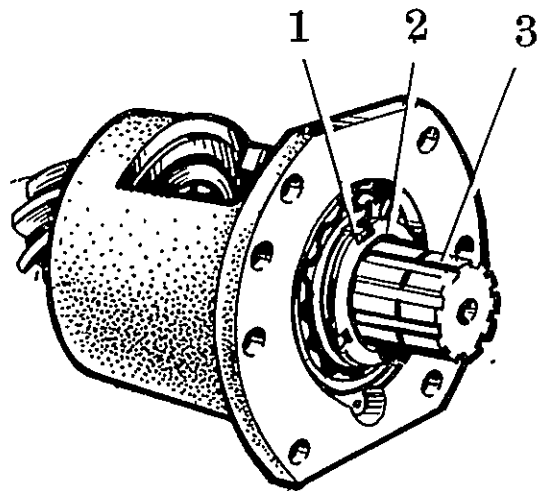

Fig. 4-4
- 1). The adjustment of the clearance between the driving spiral bevel pinion bearings 7390 and 7610 (Fig.4-4)